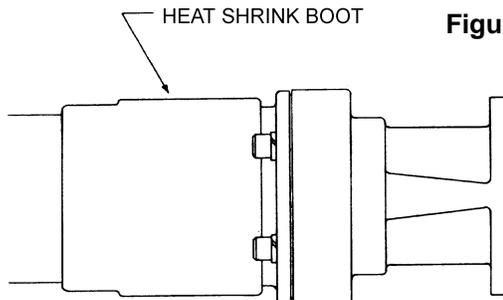

Figure 10.
12. To complete installation, slide the heat shrink boot into place over the backnut. Use a heat gun or apply a light flame to the boot until it shrinks smoothly forming a weatherproof seal. See Figure 10.